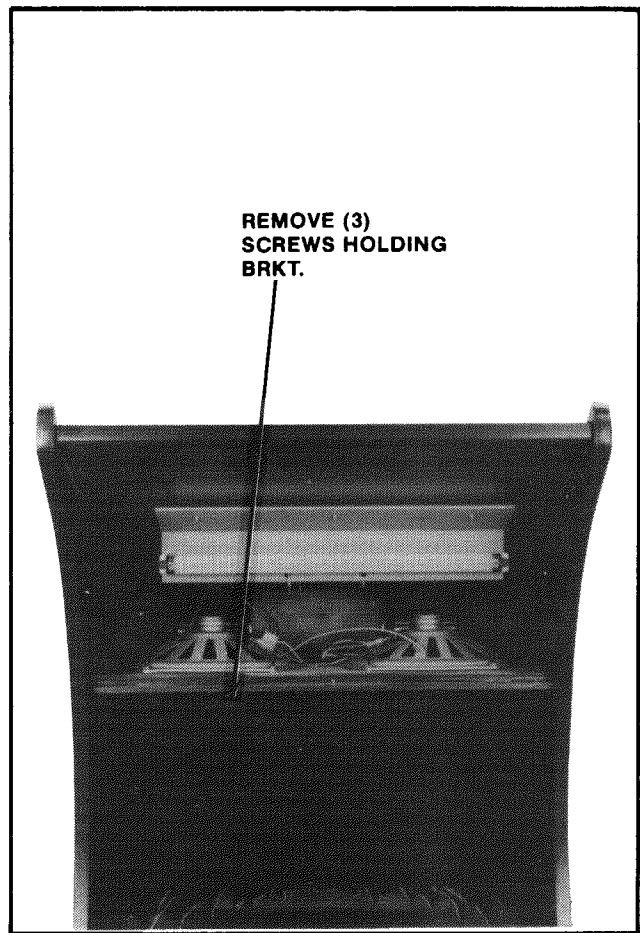

Figure 4-16 Opening the Attraction Panel — Upright
1. UPRIGHT MODEL: (See Figure 4-16).
Remove the screws which secure the bottom bracket in place. (They are on its under side.) See Figure 4-16.